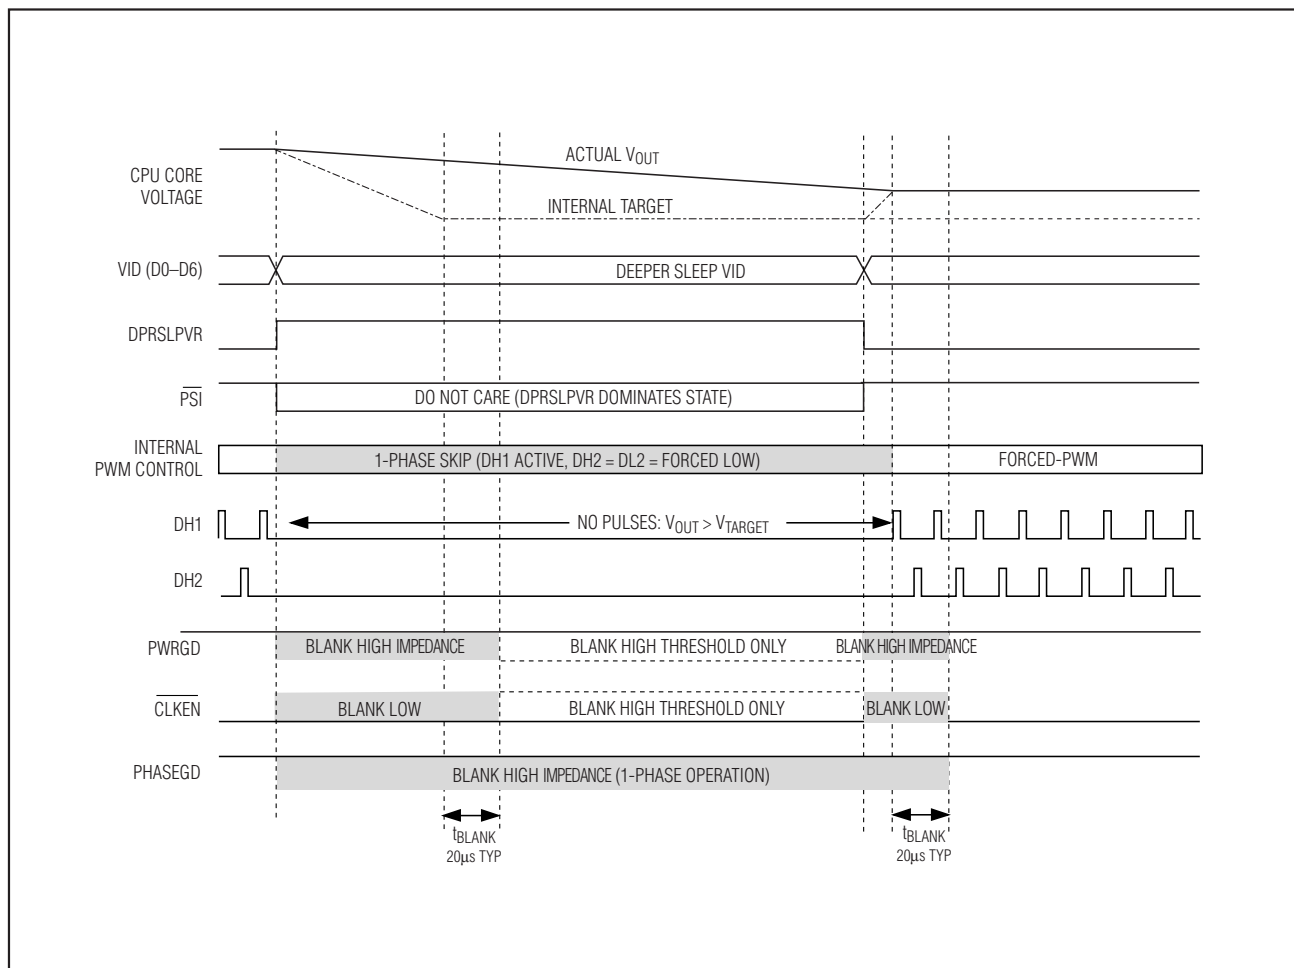

Figure 4. C4E (C4 Early Exit) Transition
When DPRSLPVR goes high, the MAX17582 immediately disables phase 2 (DH2 and DL2 forced low), blanks PHASEGD high impedance, and enters pulse-skipping operation (see Figures 4 and 5). If the VIDs are set to a lower voltage setting, the output drops at a rate determined by the load and the output capacitance. The internal target still ramps as before, and PWRGD remains blanked high impedance until 20μs after the output voltage reaches the internal target.
- **Fast C4E Deeper Sleep Exit:** When exiting deeper sleep (DPRSLPVR pulled low) while the output voltage still exceeds the deeper sleep voltage, the MAX17582 quickly slews (50mV/μs min regardless of R_{TIME} setting) the internal target voltage to the DAC code provided by the processor as long as the output voltage is above the new target. The controller remains in skip mode until the output voltage equals the internal target. Once the internal target reaches the output voltage, phase 2 is enabled. The controller blanks PWRGD, PHASEGD, and CLKEN until 20μs after the transition is completed. See Figure 4.